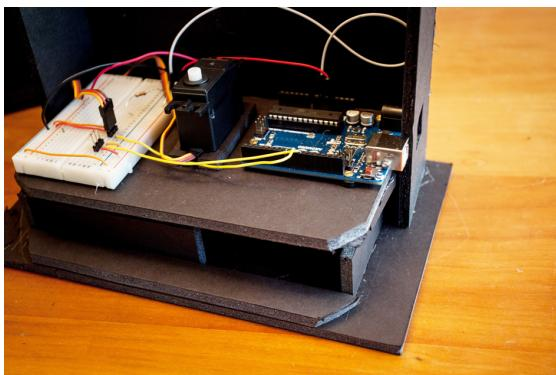

Figure 7-14 You need to cut the corners off of your lower base to allow for the curve of the support
7. You'll probably need to nick off the corners of the inner base to allow for the disk support's curve, as in Figure 7-14.